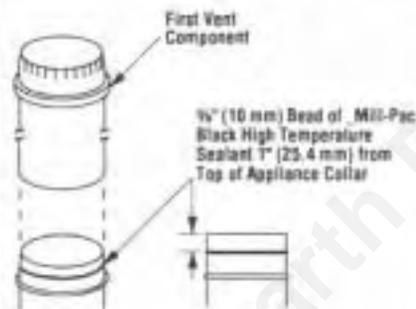

Figure 18
**WARNING:** A 3/8" (10 MM) BEAD OF \_MILL-PAC BLACK (700°F) HIGH TEMPERATURE SEALANT MUST BE APPLIED TO THE INNER APPLIANCE COLLAR BEFORE THE FIRST VENT COMPONENT IS ATTACHED (FIGURE 18) AND TO ALL SUBSEQUENT INNER VENT CONNECTIONS. FAILURE TO SEAL ALL THE INNER JOINTS WITH THIS HIGH TEMPERATURE SEALANT MAY CAUSE THE APPLIANCE TO OPERATE IMPROPERLY.
**WARNING: A 3/8" (10 mm) BEAD OF MILL-PAC BLACK (700°F) HIGH TEMPERATURE SEALANT MUST BE APPLIED TO THE INNER APPLIANCE COLLAR BEFORE THE FIRST VENT COMPONENT IS ATTACHED (FIGURE 18) AND TO ALL SUBSEQUENT INNER VENT CONNECTIONS. FAILURE TO SEAL ALL THE INNER JOINTS WITH THIS HIGH TEMPERATURE SEALANT MAY CAUSE THE APPLIANCE TO OPERATE IMPROPERLY.**